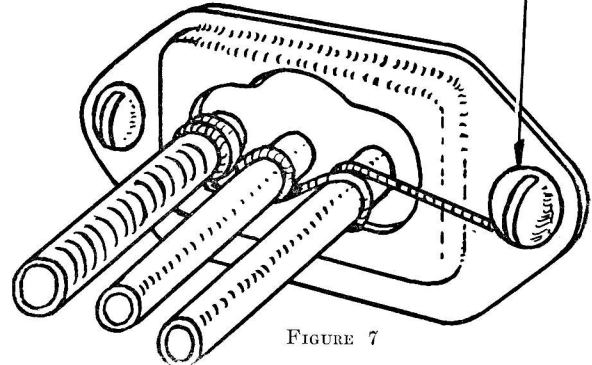

FIGURE 7
8. Ground the oil line and temperature indicator tube where they enter the dash under one of the gromet cap screws with the No. 14 stranded wire (see Figure 7).